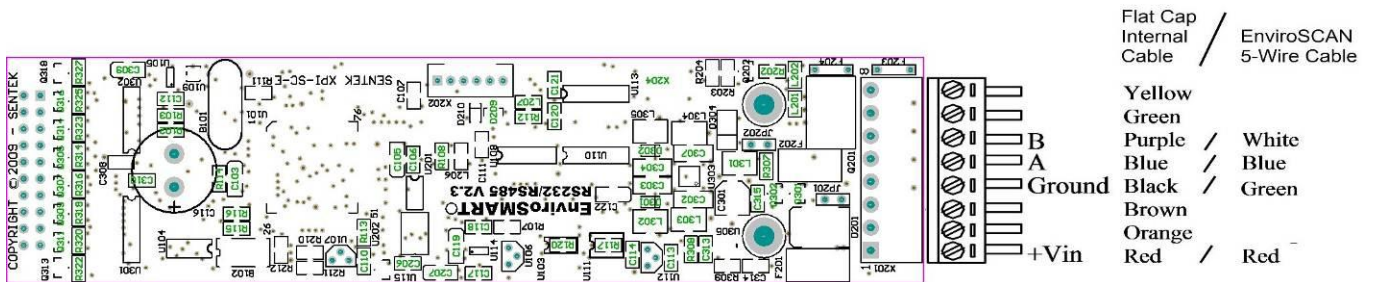

Figure 9 EnviroSCAN MULTI probe interface wiring
- iii. Twist each exposed copper wire and fold in half. Then fasten each wire into the probe connector according to Figure 9.
- iii. Screw each wire of the internal cable into the interface connector according to the diagram in Figure 9.